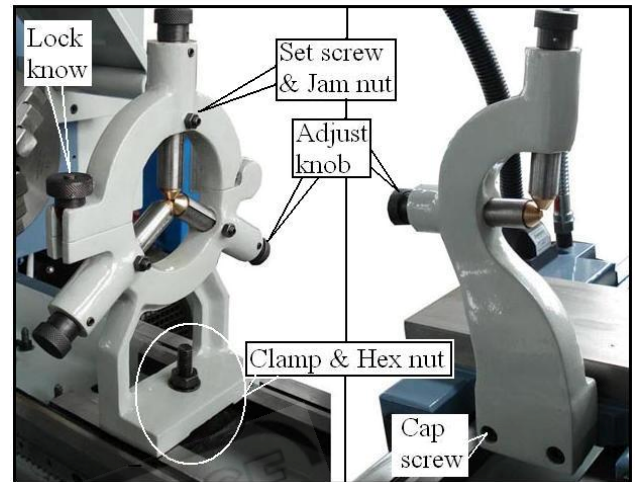

Figure 34
2. Select the required rest (**see Figure 34**) for the operation, and wipe all mounting surfaces clean with a lightly oiled rag.